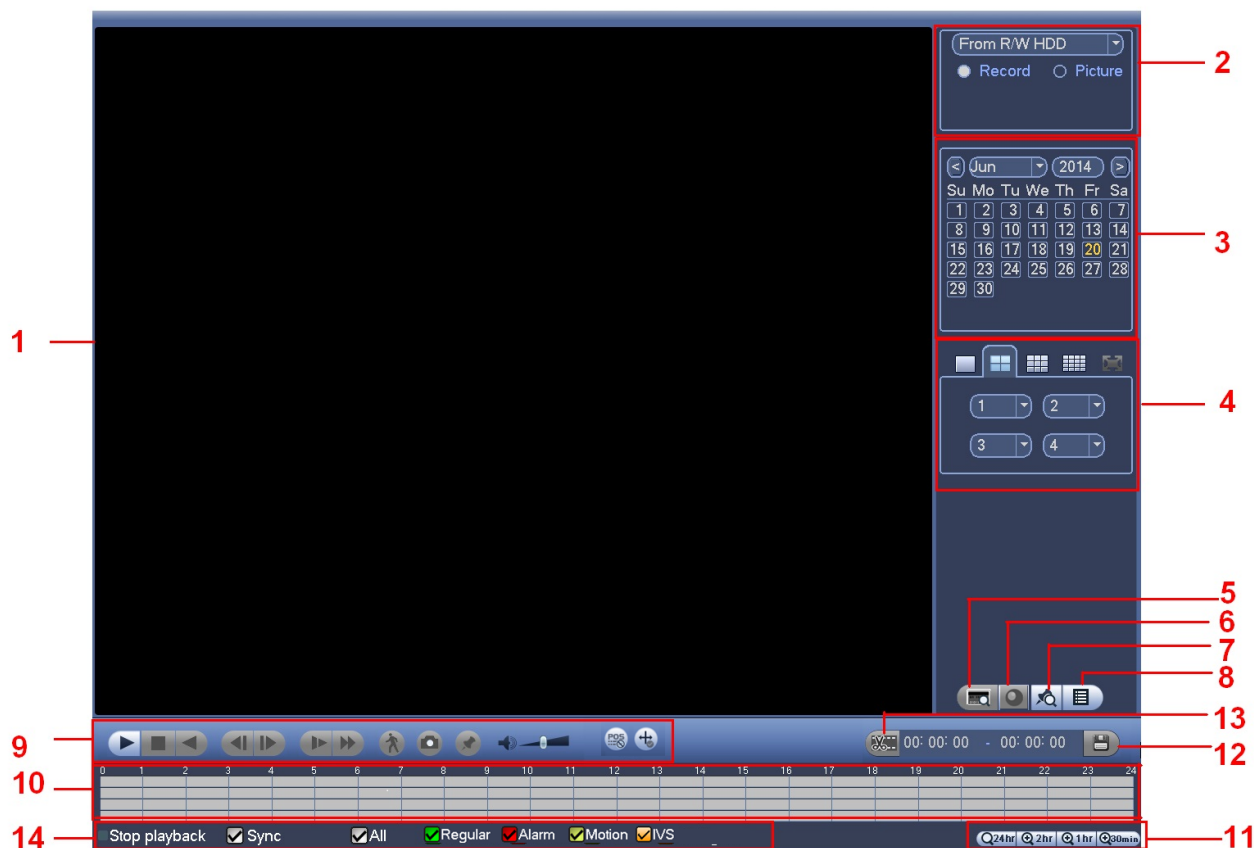
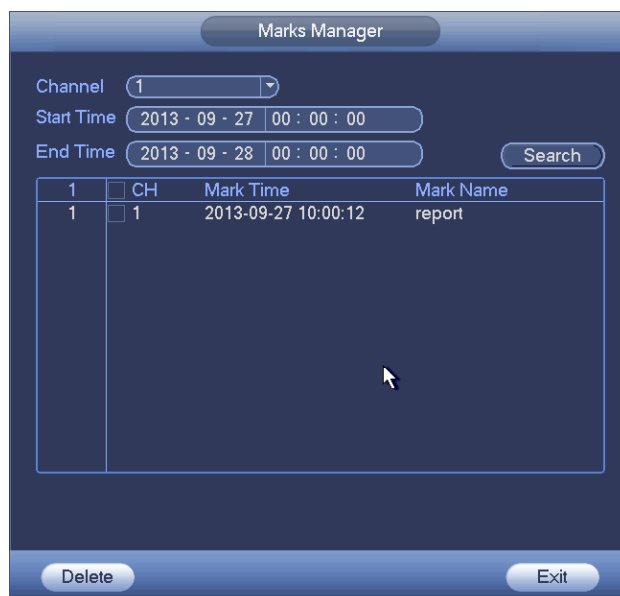

Figure 4-79
Figure 4-83
From Main menu->Search, or on the preview interface right click mouse and then select search item, you can go to the following interface. See Figure 4-79.
Please make sure your purchased device support this function. You can use this function only if you can see the mark playback icon on the Search interface (Figure 4-79).
During 1-window playback mode, click mark file list button  in Figure 4-79, you can go to mark file list interface. Double click one mark file, you can begin playback from the mark time.
Click the mark manager button  on the Search interface (Figure 4-79); you can go to Mark Manager interface. See Figure 4-83. System can manage all the record mark information of current channel by default. You can view all mark information of current channel by time.
- a) From Main menu->Search, or on the preview interface right click mouse, you can go to Figure 4-79.